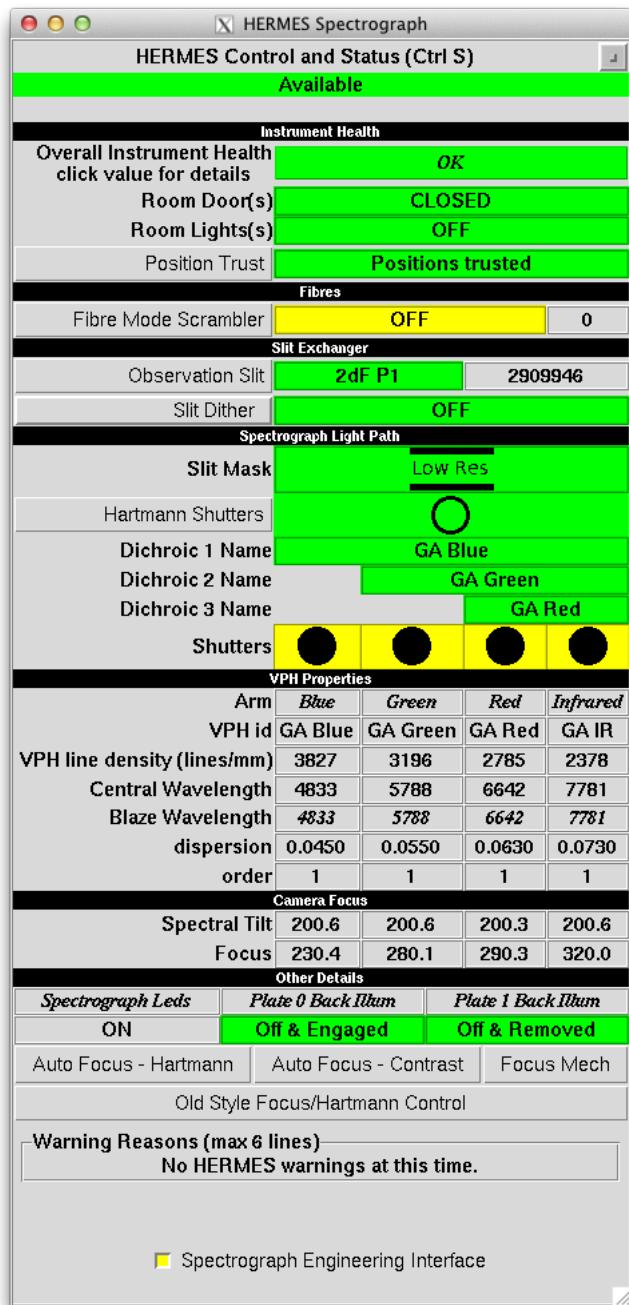

Figure 11.1: HERMES Spectrograph Control Window.
1. In the HERMES Spectrograph Control Window (see Figure 11.1), click AutoFocus - Hartmann. The sequence of hartmann exposures will commence immediately after. The exposure time is fixed at a value appropriate for the instrument resolution mode (180sec in nominal resolutions, 300sec for list mask mode).